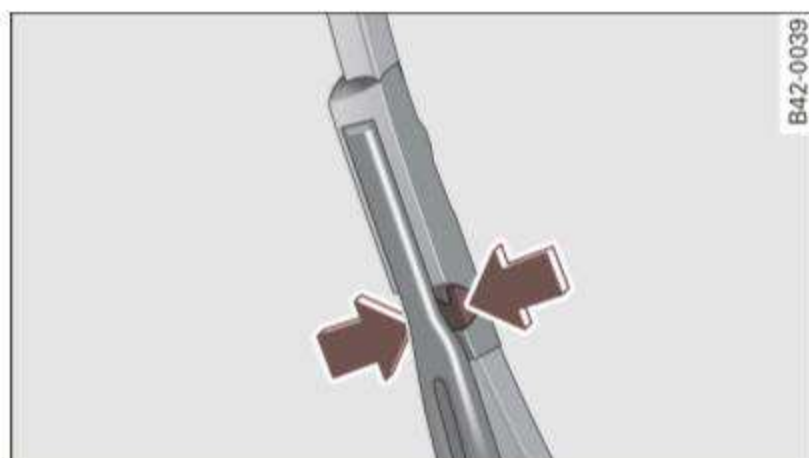

Fig. 51 Unlatching wiper blades
- On the upper end of the wiper arm at the corrugation, squeeze the plastic retainer together on both sides in the direction of the arrow ⇒ *fig. 51*.